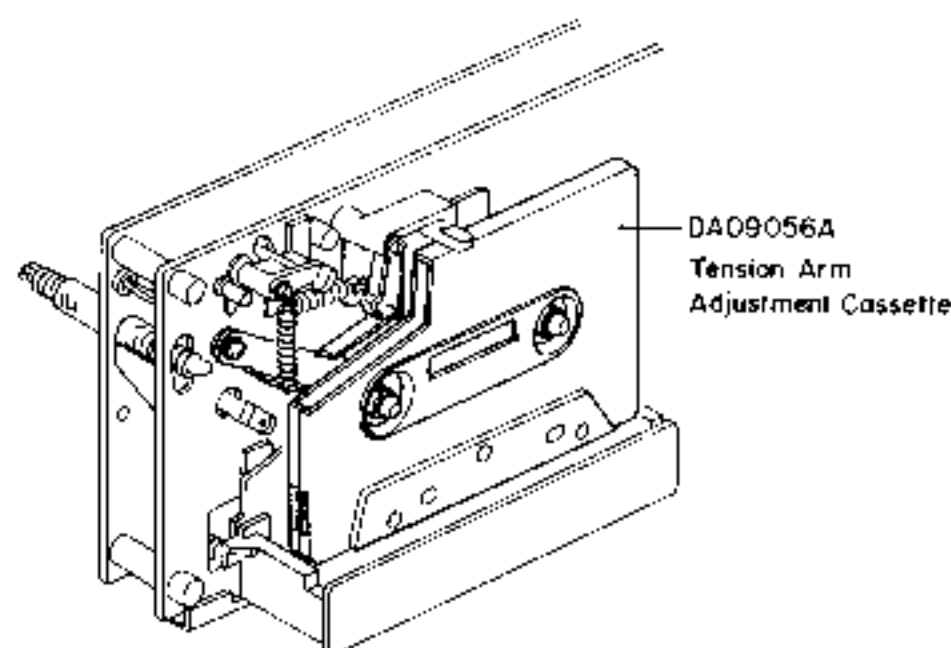
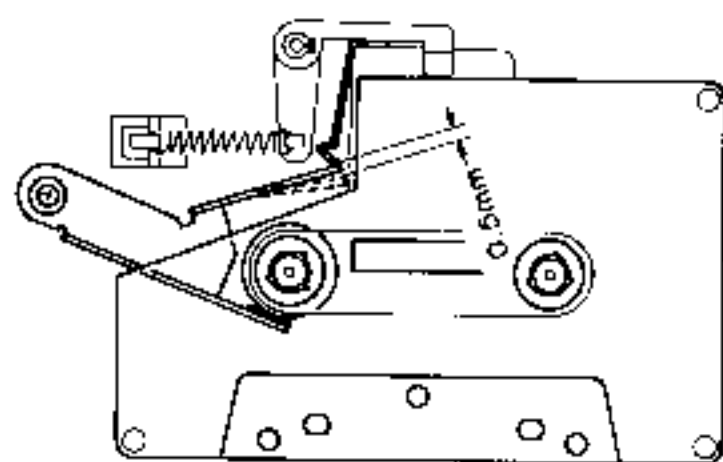

Fig. 2.10
Fig. 2.11
Refer to Figs. 2.10 — 2.13.
- (1) Load a Tension Arm Adjustment Cassette (DA09056A) in the cassette deck referring to Fig. 2.10.
- (2) Set the cassette deck in Play mode.
- (3) Bend the Back Tension Arm with pliers so that the gap between the Cassette Holding Spring assembled on the Head Base Ass'y and the Back Tension Arm becomes 0.5 mm as shown in Fig. 2.11. Do not bend the top of the Back Tension Arm.
- (4) Set the cassette deck in Stop mode, and remove the Tension Arm Adjustment Cassette (DA09056A), then set the cassette deck in Cue mode.